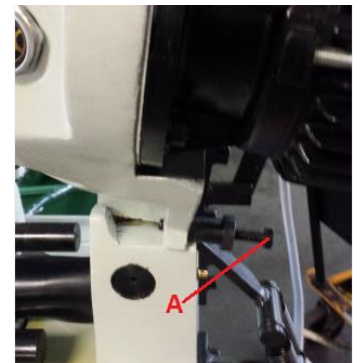

Fig. 8
The saw depth can be adjusted with setting screw A (fig.8). When the screw is turned clockwise and thereby more inward, the saw will cut less deep. When it is turned backwards, the saw can cut deeper.
1. Pull the lever (B,fig.8) to the right.